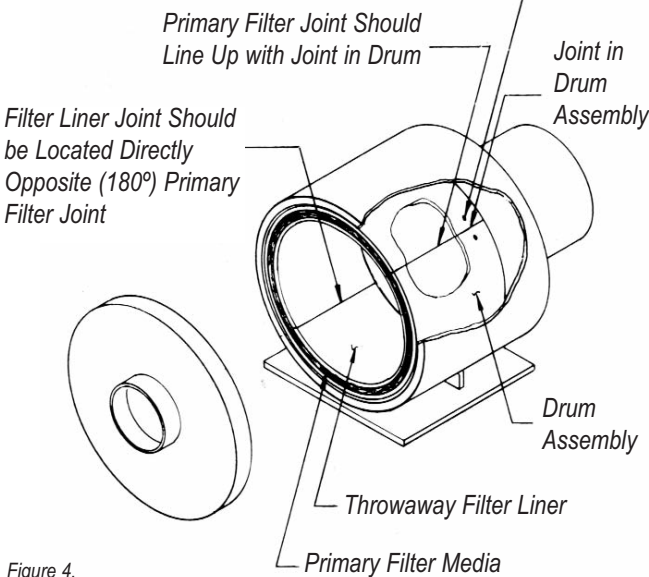

Figure 4.
6.2 Throwaway Liner Replacement - (Figure 4)